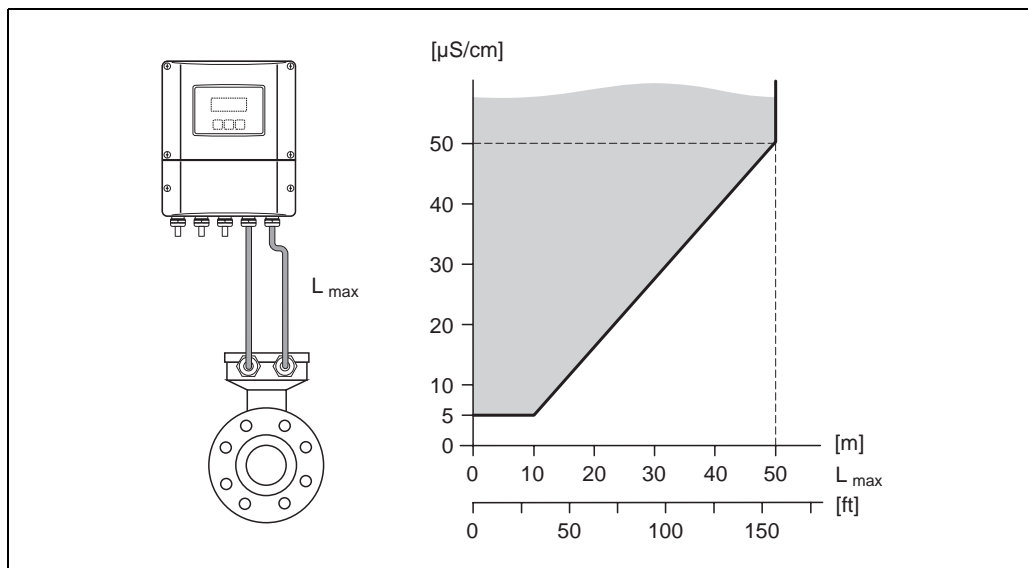
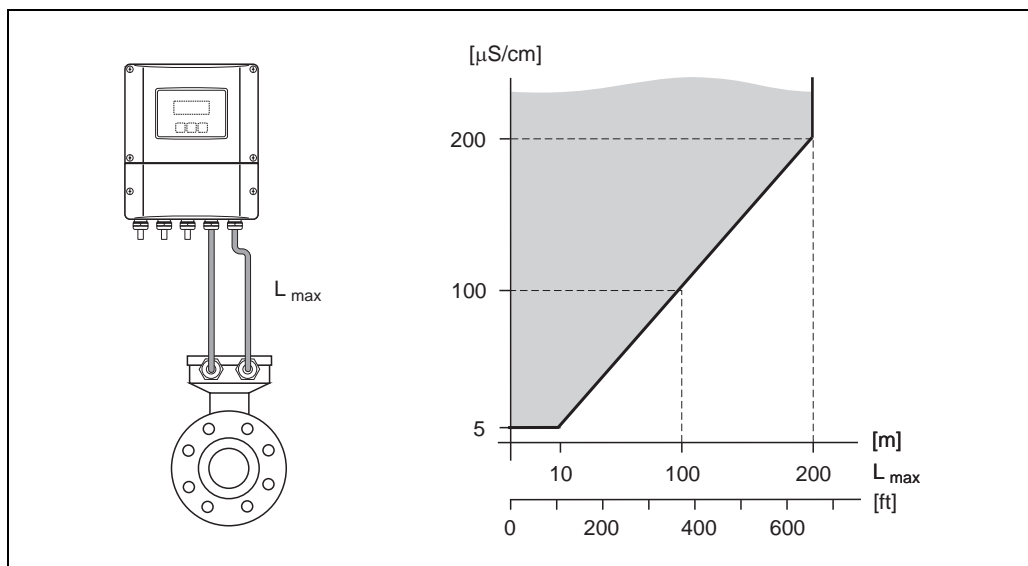

Fig. 16: Permitted lengths for connecting cable in remote version, as a function of the conductivity of the fluid
Fig. 17: Permitted lengths for connecting cable in remote version, as a function of the conductivity of the fluid
- The permissible cable length  $L_{max}$  depends on the fluid conductivity (Fig. 16, Fig. 17).